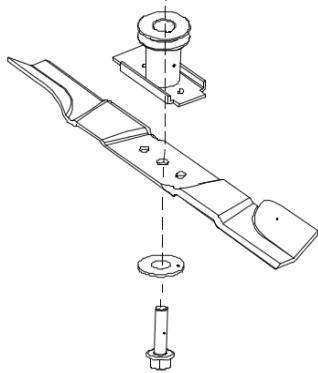

Fig. 15
4. Loosen the hex bolt anticlockwise using a suitable wrench and remove it together with the locking flange and blade (Fig. 15).